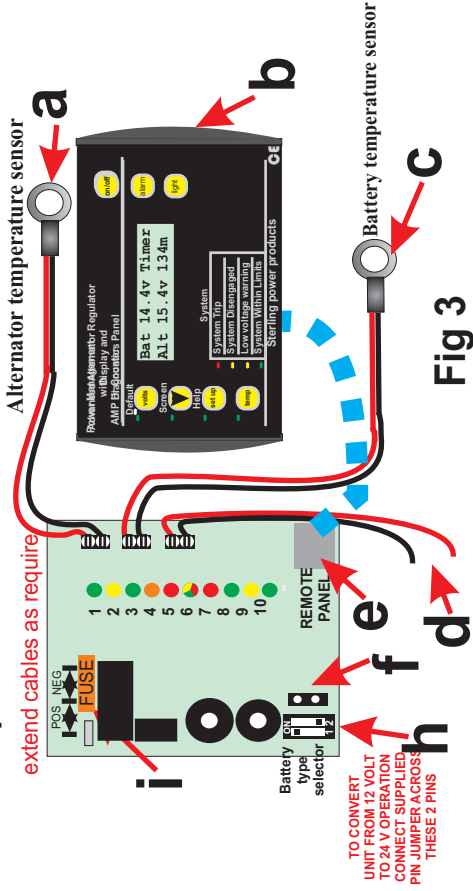

Fig 3
UNIVERSAL *DIGITAL* ADVANCED REGULATOR FITTING INSTRUCTIONS. This new unit is suitable for 12 and 24 volt operation, obviously to set this unit up as 24 volt on a 12 volt system, would be catastrophic and all effort is made to ensure this does not happen. The unit comes preset to 12 volt operation as standard, a small electrical bridge must be made in order for the 24V function to be operated. (see fig 3 code f, for the bridge position)This bridge is not supplied in the regulator box but is Sellotaped to the centre of these instructions ensuring that it cannot accidentally be installed. For 24V installation please fit the bridge as shown on the diagram **now !!**.
2) Remove the Regulator lid, inside you will see the circuit board with a 2 pin dip switch and a large fuse: See **fig 3** , **i** = large fuse and **h** = dip switch